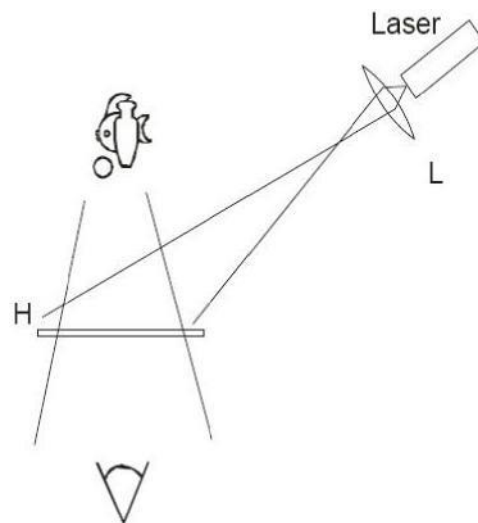

Fig. 8 Set-up for hologram reconstruction (L = lens, H = hologram)
- Arrange the components on the metal board as shown in Figure 8. The lens should be in direct contact with the laser and the hologram should be positioned as far as possible from the laser and turned with the red spot to the laser.